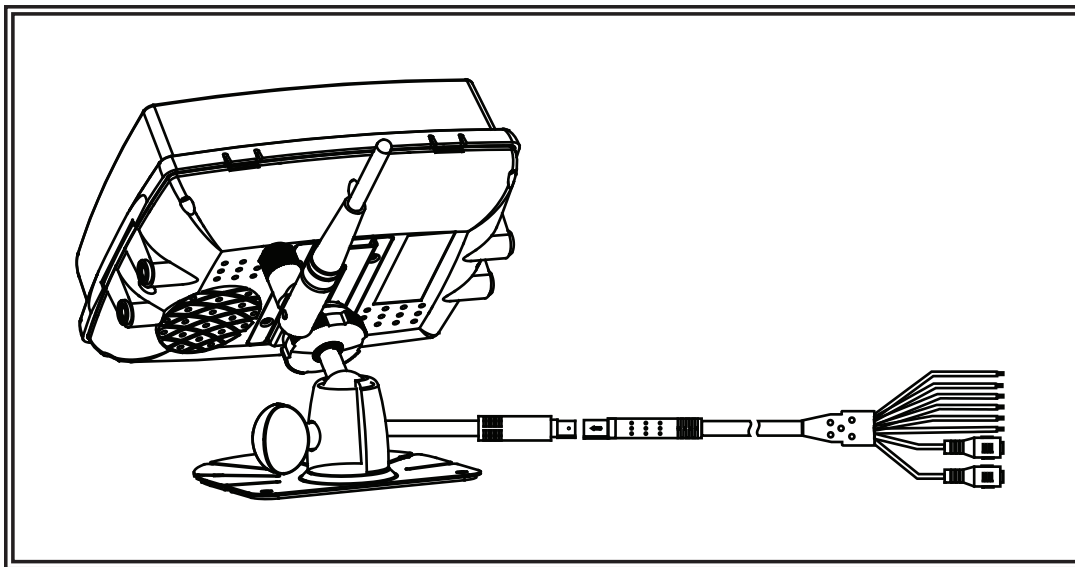

Figure 6
3. Connect the monitor with the AV and power supply conversion cable (Figure 6)